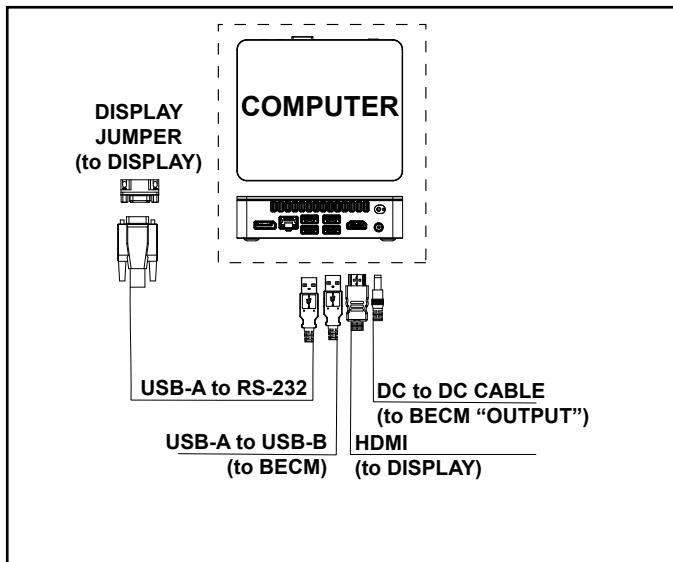

Figure 3.3 Computer Wiring
4. Reconnect cables in the same manner as they were removed, and place the computer in the same location, as the old computer. See Figure 3.3.